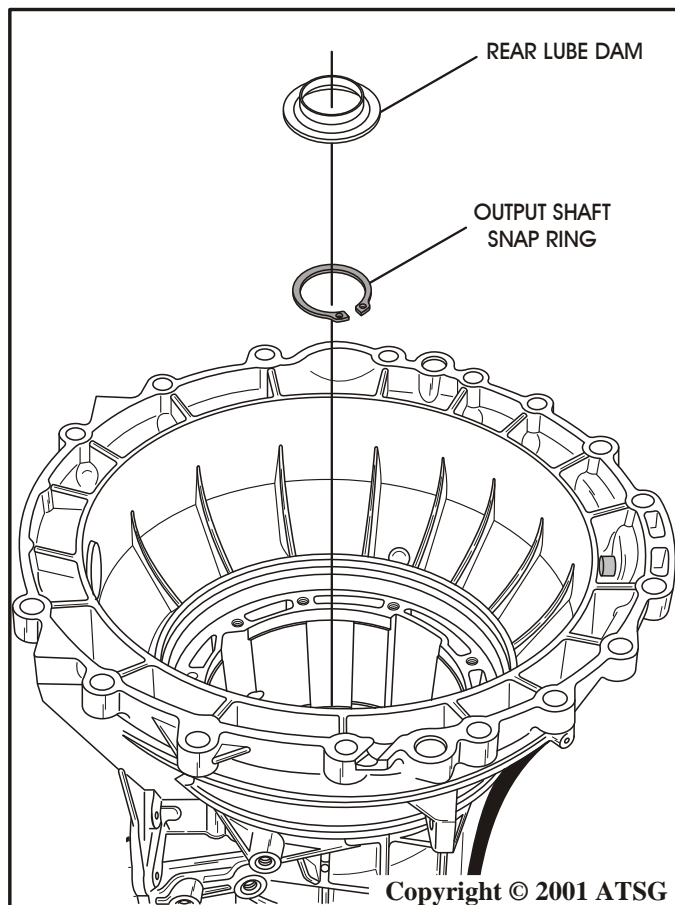

Figure 145
11. With the pan rail still facing up, install output shaft snap ring into the groove in the output shaft and ensure that it is fully seated. Refer to Figure 145.
12. Now the transmission can be rotated so that bell is facing up, as shown in Figure 145.
13. Install the plastic rear lube dam into rear ring gear in the direction shown in Figure 145.